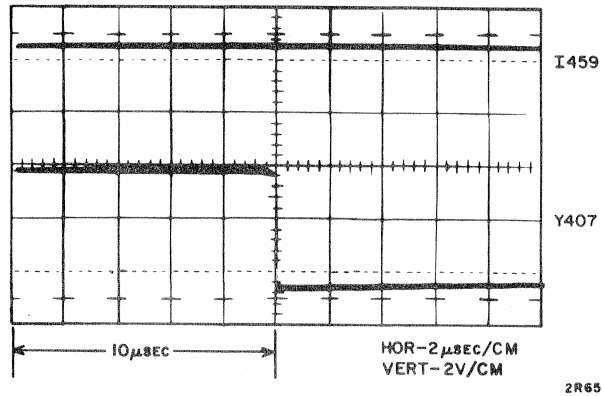

Figure 6-26. Head Select Timing
- c. Make oscilloscope settings and trace comparisons according to Figure 6-26. As the 1-track repeat cycles, adjust the potentiometer shaft of Y407 until its output pulse is delayed by 10  $\mu$ sec with respect to the "0" output of I459.